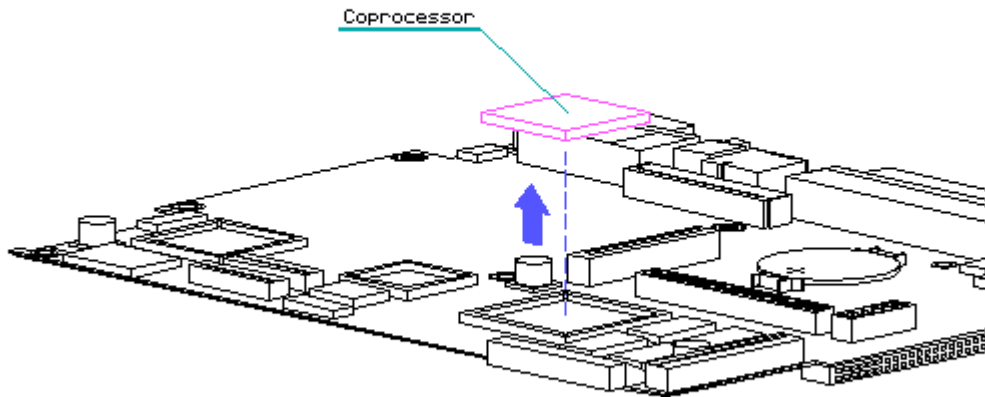

Figure 2-36. Removing the Coprocessor from the Processor Board
2. Remove the coprocessor from the processor board by gently lifting up on the coprocessor with the ROM removal tool (Figure 2-36).